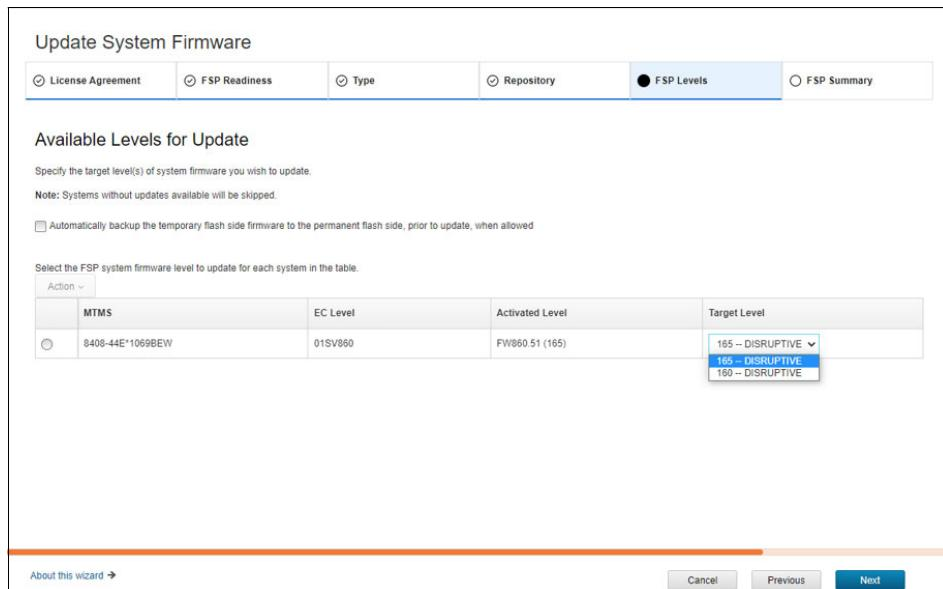

Figure 2-53 Update Summary window
7. The Update Summary window opens. In this window, the progress of the update and whether it successfully completed is shown. If a disruptive upgrade is to occur, select the **I acknowledge that system disruption will occur** option. If this option is not selected when a disruptive upgrade occurs, the wizard cannot progress (see Figure 2-53).